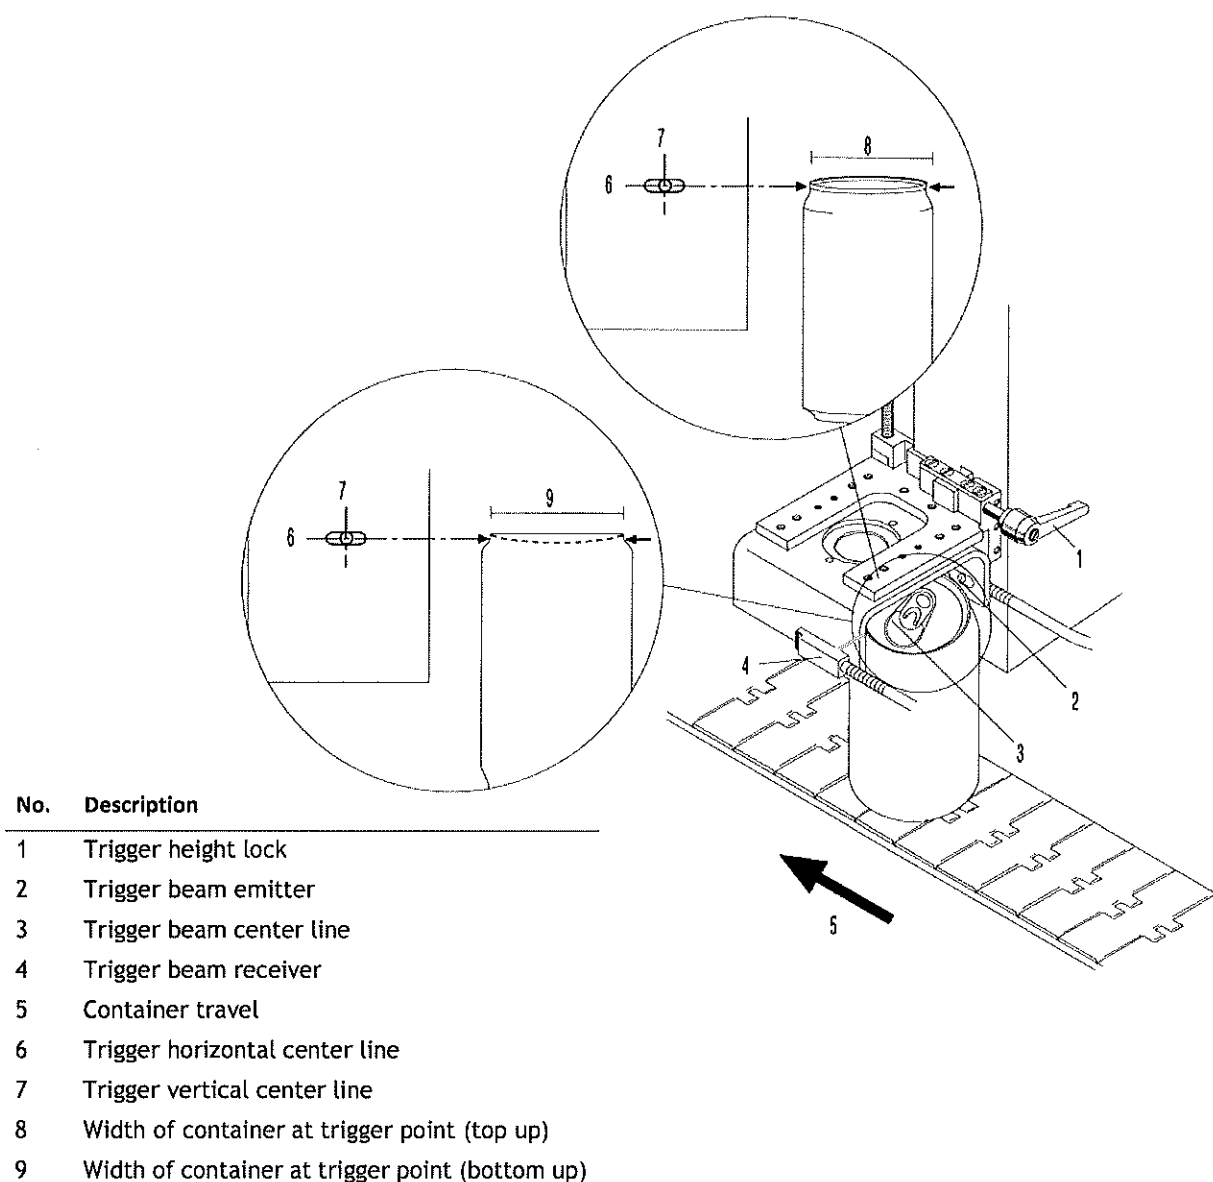

Figure 3-7. Aligning the Inspection Trigger Beam for a Can
4. Lower the bracket until the trigger beam contacts the container at the widest part of the lid, or if the container is oriented upside down so the beam contacts the container as shown in Figure 3-7.